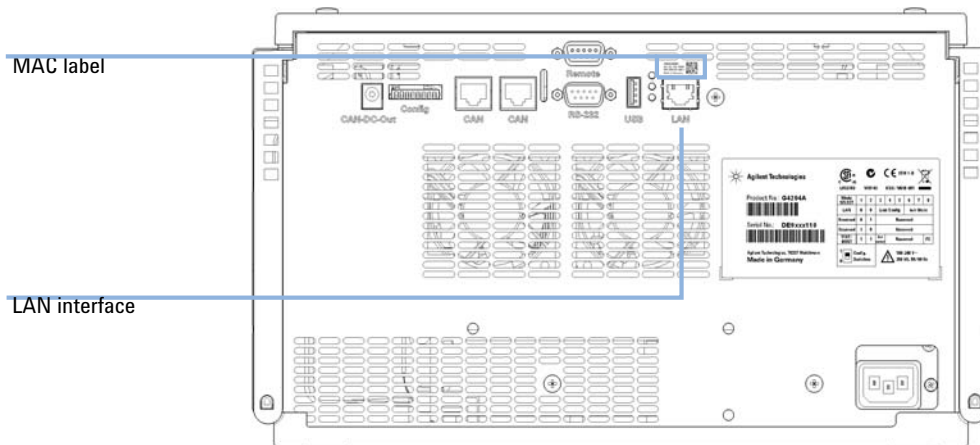

Figure 33 Location of LAN interfaces and MAC label
- 1 Note the MAC (Media Access Control) address for further reference. The MAC or hardware address of the LAN interfaces is a world wide unique identifier. No other network device will have the same hardware address. The MAC address can be found on a label at the rear of the module underneath the configuration switch (see Figure 33 on page 244).
- 2 Connect the instrument's LAN interface (see Figure 33 on page 244) to